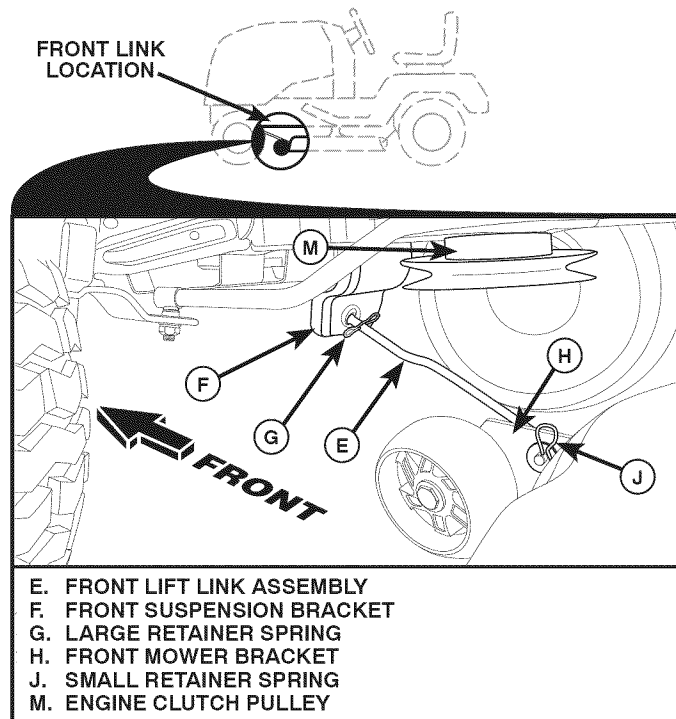

Fig. 34
8. ATTACH FRONT LINK (E) (See Fig. 34)
- From front of tractor, insert rod end of front link (E) through front hole in tractor front suspension bracket (F).
- Move to left side of mower and insert large retainer spring (G) through hole in front link (E) behind front suspension bracket (F).
- Insert other end of link (E) into hole in front mower bracket (H) and secure with washer and small retainer spring (J).